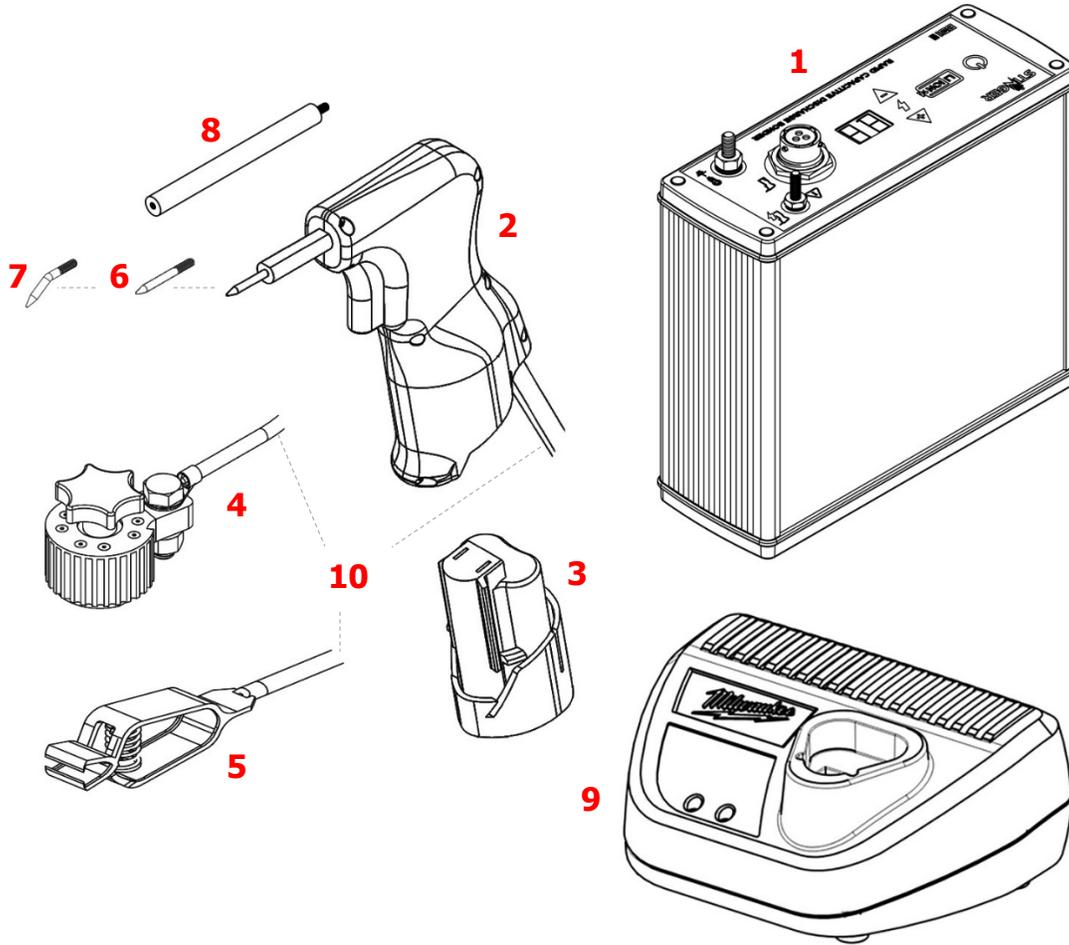

Figure 1. S100 Stinger™ Components
6. Once all connections are properly engaged, place the battery in the bottom of the electrode handle assembly as shown in Figure 1 until it clicks in position.